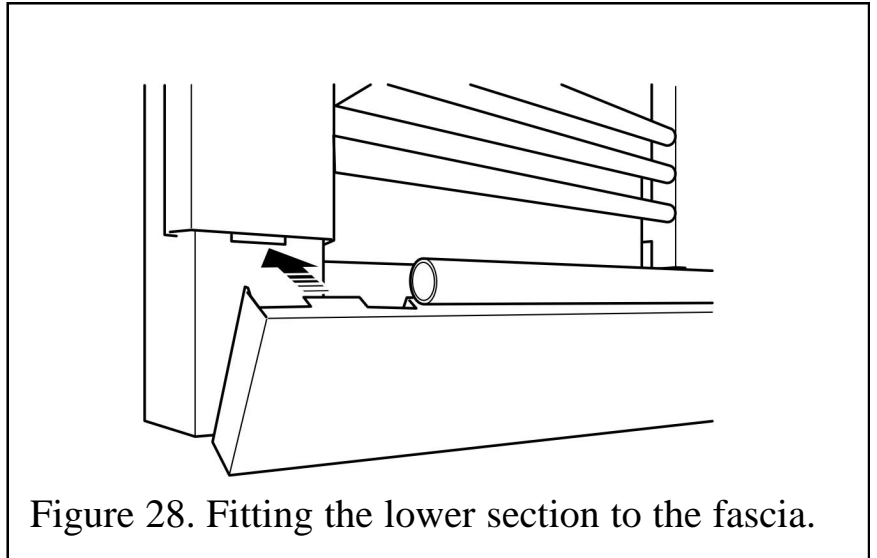

Figure 28. Fitting the lower section to the fascia.
6. The lower section of the fascia has two tabs. Locate these into the slots in the fascia (See figure 28). It may be necessary to re-position the magnets that secure the lower section.